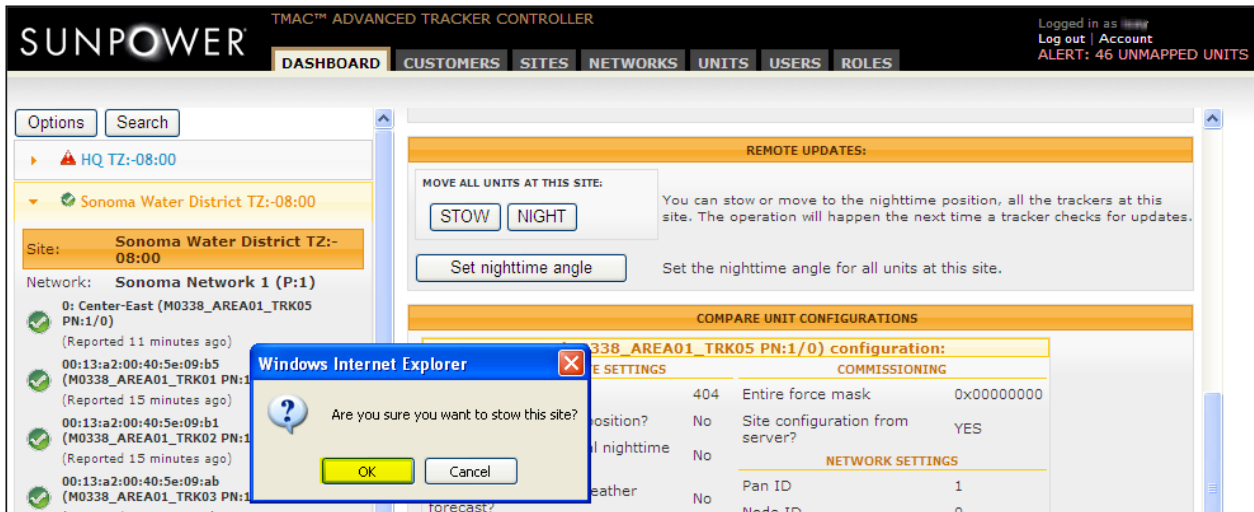

Fig. B47
- b. Click **OK** in the confirmation window (Fig. B47).